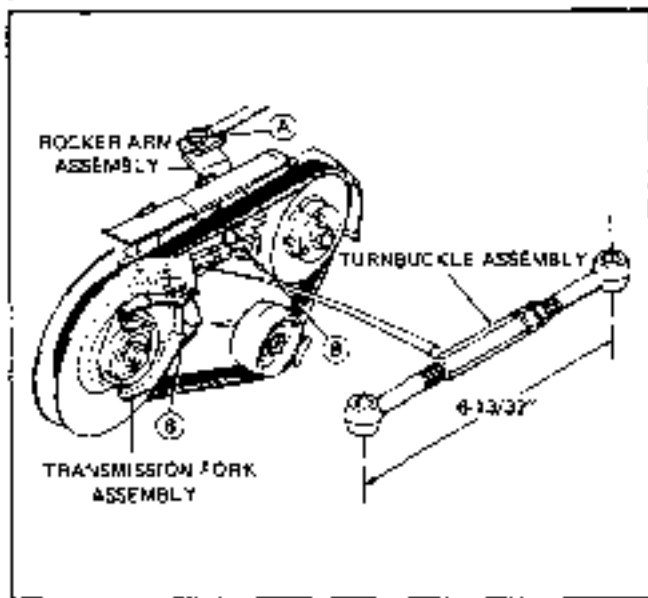

FIGURE 2
6. Rotate the shift ring and cover assemblies until the setscrew over the shaft keyway is aligned with one of the holes in the pulley hub. Loosen setscrew. The other setscrew in the collar need not be loosened at this point as it merely holds the collar in position on the Spicer Assembly. Fig. 2.
A. Remove the 1/8" nut and bolt from the arm and rocker assembly, reference letter "A", Fig. 2.
B. Remove the locknuts, reference letter "B", Fig. 2 and lift out bolt and rocker assembly.
placed forward when assembling in the tractor. Assemble both eyebolts with the same length of threads engaged in the turnbuckle. (See Fig. 2.)
**IMPORTANT:** After tightening the locknuts, reference letter "B", Fig. 2, insure that there is free movement of the fork assemblies.